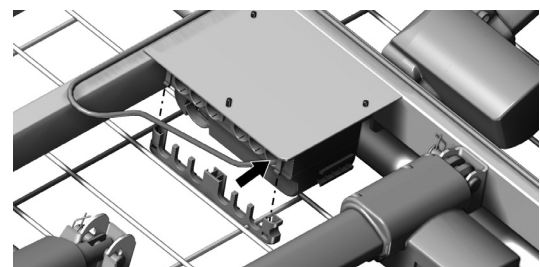

Figure 4
8. Connect the battery to the control box by plugging the cable labeled "DC" into the port labeled "DC" (Figure 4). Reinstall the control box cable cover.